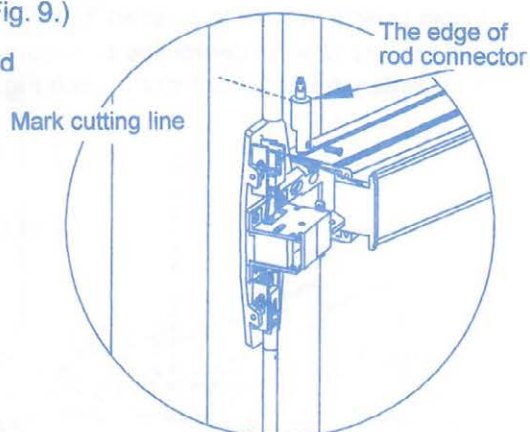

Figure 9
3. Measure and cut the length of top rod. The length of top rod is measured to the edge of rod connector which is going to be fastened on arrow mark position of chassis assembly in next step. Mark the cutting line then cut the excess portion. (See Fig. 9.)